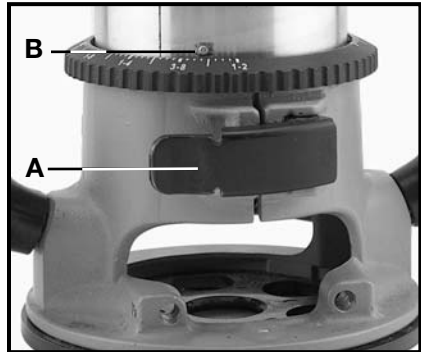
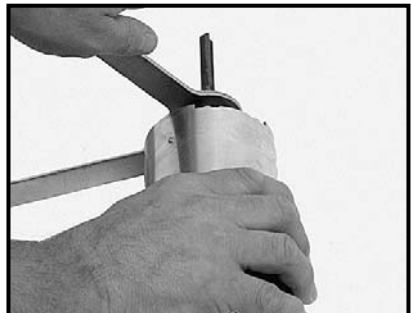

Fig. 1
Fig. 2
- (a) Open the clamp (A) Fig. 1.
- (b) While holding the base, turn the motor unit COUNTER-CLOCK-WISE until the lower pin (B) in the motor housing is disengaged from the groove in the base.
5. Place one wrench on the flats of the chuck with the opposite end of the the wrench resting on the bench to your left (Fig. 2).
2. Open the clamp (A) Fig. 1, and set the power unit in the base unit.
3. Align the lower pin of the motor unit (B) Fig. 1 with the groove in the base.